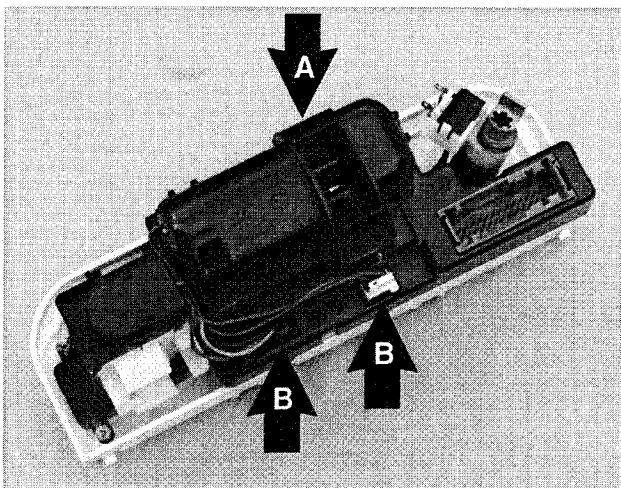

Fig. 26. Sensor fan (A) and harness (B) in back of A/C control head (rotary-knob control head shown).
2. Rotary-knob control head: Disconnect electrical connector from top of control head housing. Pry open plastic housing and remove sensor fan. See Fig. 26.